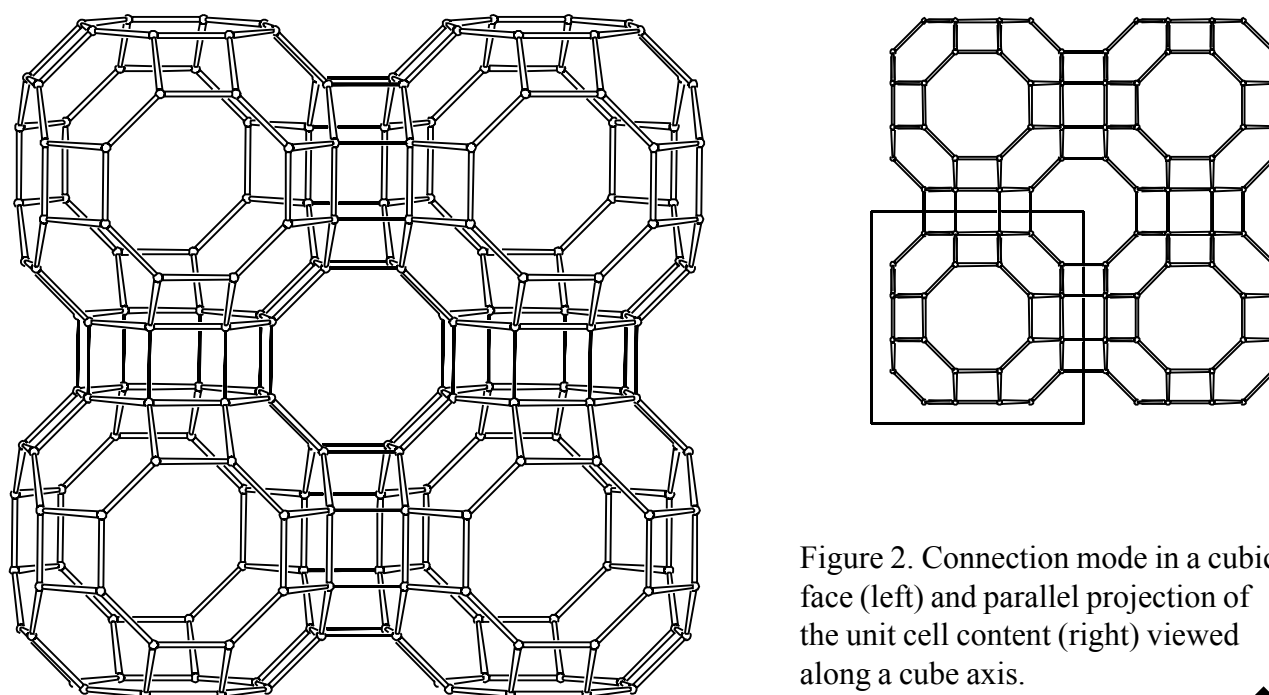

Figure 2. Connection mode in a cubic face (left) and parallel projection of the unit cell content (right) viewed along a cube axis.
The three-dimensional **RHO** framework is obtained when PerBUs, related by pure translations along the cube axes, are connected through double 8-rings. Another  $\alpha$ -cavity is formed at the center of the cube. The connection mode in a cubic face is illustrated in Figure 2. An alternative PerBU of **RHO** is the double 8-ring.
3. Projections of the unit cell content: See Figure 2.